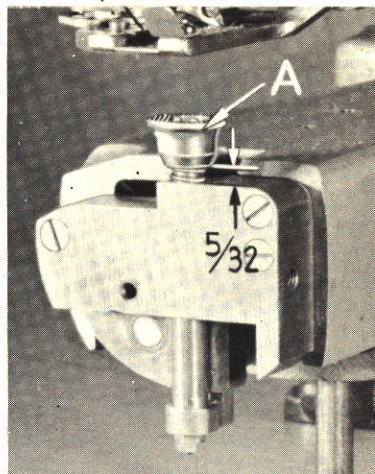
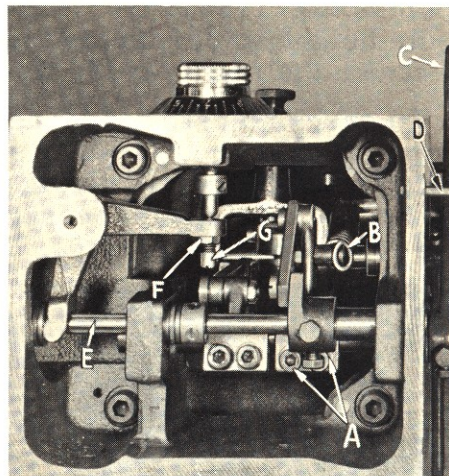
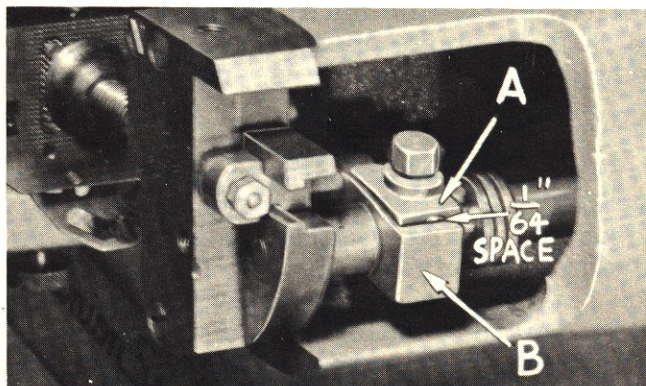
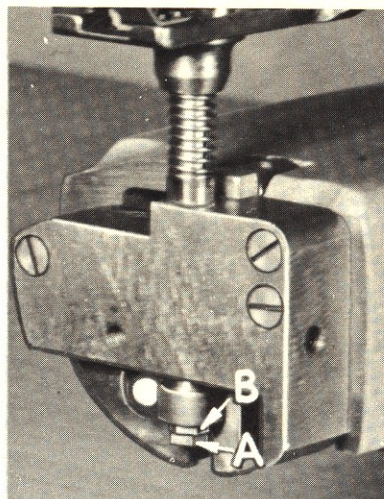

Fig. 9
Fig. 8
Fig. 10
Fig. 11
The distance the work clamp opens for insertion of work is set at the factory and usually does not have to be adjusted. Should it become necessary to do so, the proper setting may be obtained as follows: Tip machine on its side and loosen clamp screws (A, Fig. 8). Disengage spring (B) from crank roll. Depress lever (C) until it rests against its stop pin (D). Turn plunger
shaft (E) clockwise until bottom of work clamp (A, Fig. 9) is $\frac{5}{32}$ inch above plunger bearing block. Tighten clamp screws (A, Fig. 8) and re-engage spring (B).
With machine in stop position, tilt machine on side, pull penetration dial out, and turn clockwise as far as it will go. Loosen locknut (F, Fig. 8), and adjust screw (G) until space between plunger block (A, Fig. 10) and crank (B) is $\frac{1}{64}$ inch. Lock nut (F, Fig. 8) securely. Tip machine back, engage clutch, and turn pulley in operating direction until point of looper is over center of needle. Loosen locknut (A, Fig. 11) and adjust plunger up or down by means of nut (B) until point of looper just contacts needle. Lock nut (A) securely.